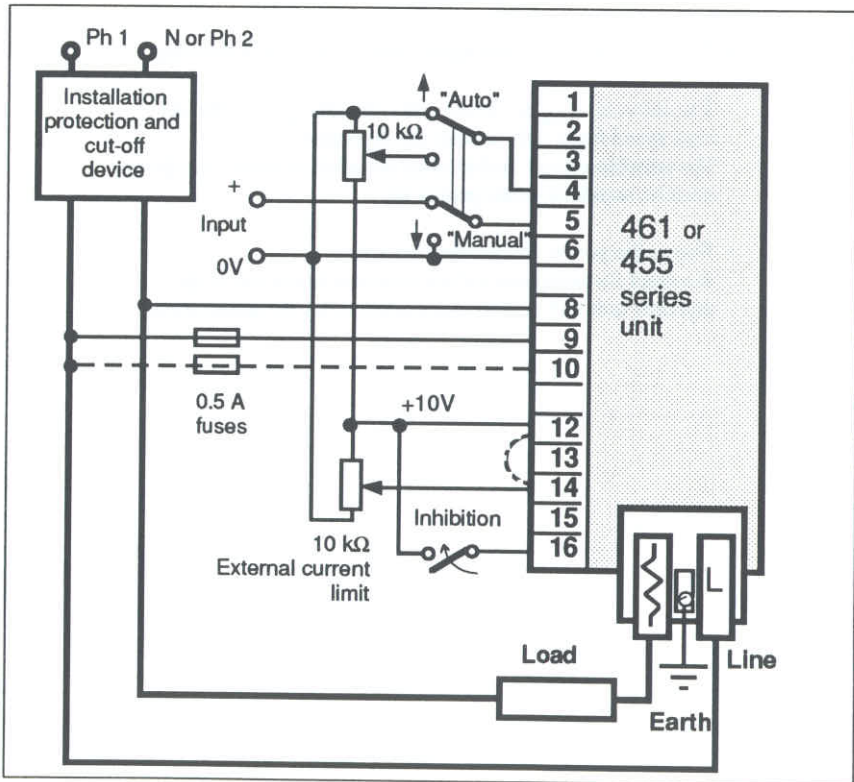

Figure 4.3 Drive wiring diagram
Figure 4.3 shows the wiring diagram of the control and electronic power supply. Terminal 14 (current limit) is only used for the 461 series.
If the external current limit (by external setting potentiometer or by voltage) is not used, it is essential to connect terminal 12 to terminal 14 directly (as indicated as a dotted line in figure 4-3).
- of the electronic drive (see fig. 4.3)
The unit control can be performed by an external analogue signal or manually (by a potentiometer, see fig.4.3, page 4-12).
The user can choose the input type (Analogue signal from a controller or other signal source or Manual drive using an external potentiometer) by the switching shown in figure 4.3.
Inhibition is effective when a DC voltage between 4 V and 32 V is set on terminal 16 in relation to terminal 6 (see fig. 4.3, page 4-12).